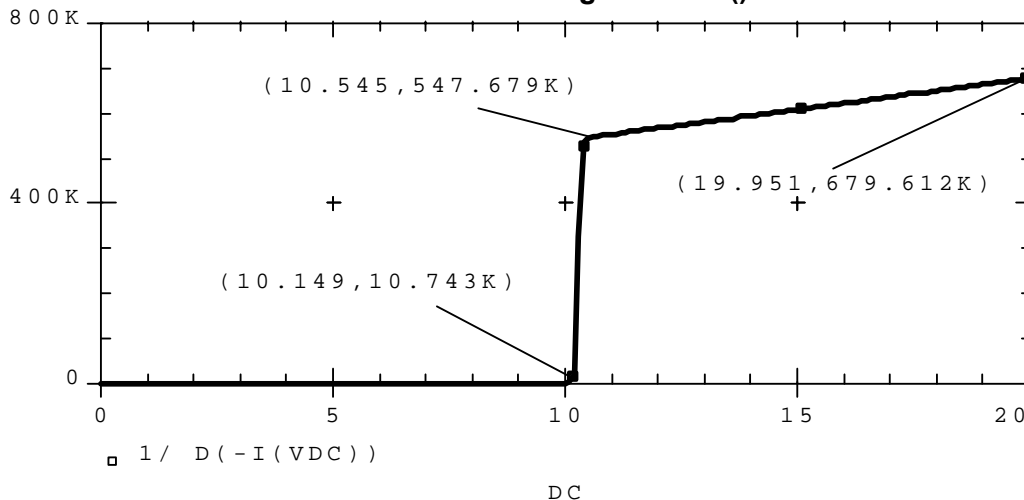

FIGURE 13:
3. DC differential output resistance vs. DC applied voltage (a DC SWEEP using a built-in PROBE function) (Figure 13)
Figure 13 shows how the PSPICE function D(), which takes the derivative of its argument with respect to the x-axis variable, can be used to find the mirror resistance as the inverse slope of the I-V curve. D() can be found on the TRACE ADD menu in the right-hand column under ANALOG OPERATORS AND FUNCTIONS. If this window is blank, try scrolling the FUNCTIONS OR MACROS window at the top of the column. At a DC voltage of
Next, we use PROBE to generate the output resistance of the current mirror using an AC analysis. This approach has two possible advantages over a DC analysis: it avoids the numerical differentiation used in Figure 13 that can sometimes lead to "noisy" behavior if the voltage increment in DC is chosen too small, and it provides the frequency dependence of the Norton impedance introduced by the transistor capacitances (these are studied later in the course).